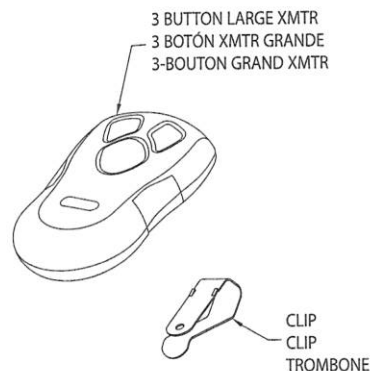

Fig. 2
Step 5-1 Battery replacement **Fig. 2**.